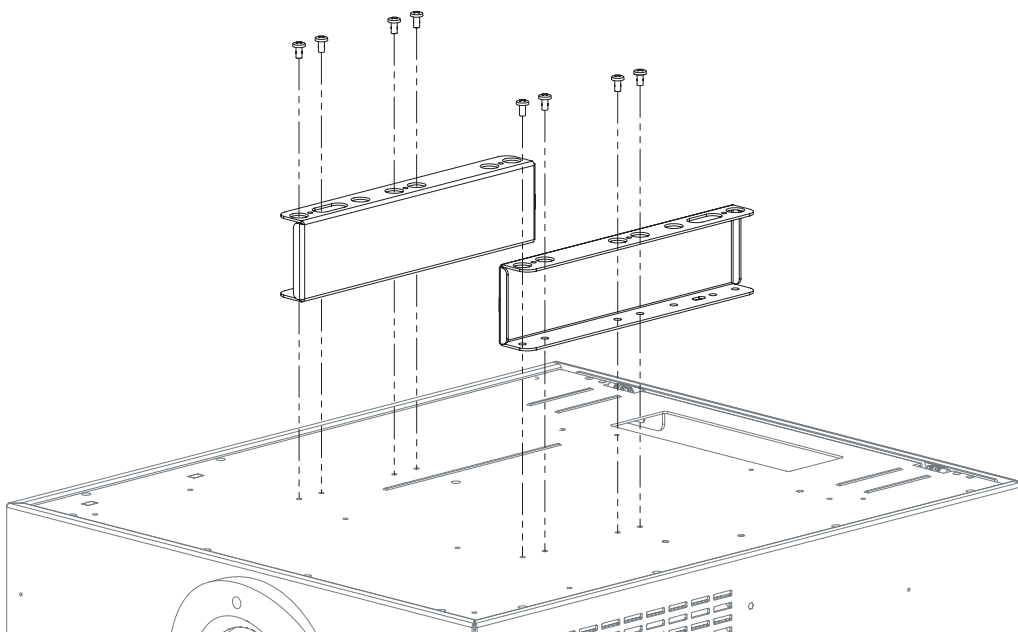

Figure 3-7. Installing the Ceiling Mount Adapters/Projector Stands
Using eight (8) each of the supplied, Pan-Head Phillips screws, attach the AutoScope Ceiling Mount Adapters/Projector Stands to the projector as shown in Figure 3-7.